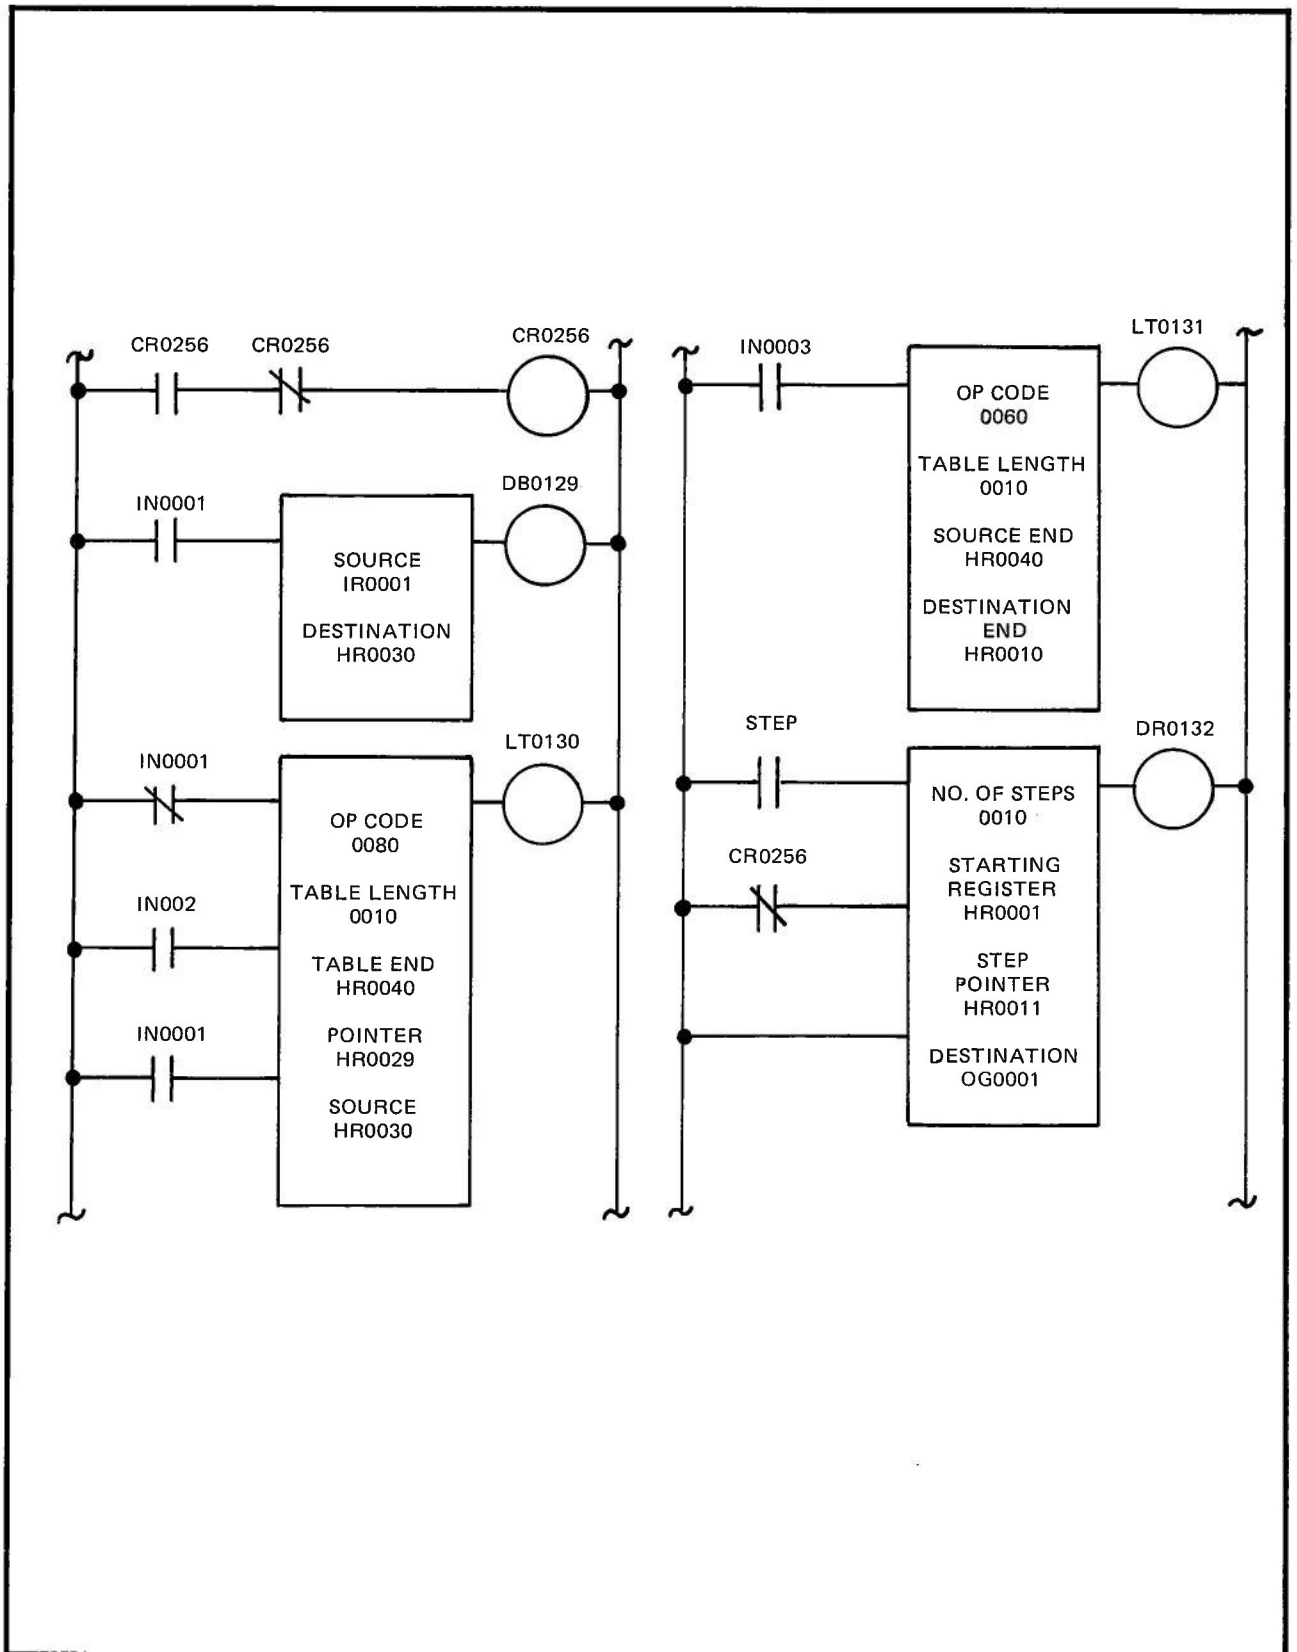

Figure 3. Drum Controller Table Loading Circuit
The RT function is ideally suited for loading step data into the Drum Controller (DR) function. In the circuit in Figure 3, IN0001 is a momentary pushbutton, ENTER DATA; IN0002 is LOAD DATA and must be turned on to load information into the table; and IN0003 is a RELOAD DRUM CONTROLLER momentary pushbutton. An operator can enter new data into the Drum Controller table by entering the desired data in a thumbwheel set. This data is converted to binary information when the ENTER DATA pushbutton is pressed. The binary data is placed in HR0030, which is also the SOURCE register for the Table to Register Move, LT0130. If IN0002 is closed, pressing IN0001 will cause the data currently in HR0030 to be placed in HR0031, the first location in the table being loaded. When IN0001 is released, the POINTER will increment by 1. New data is loaded into the thumbwheel set and the procedure repeated, this time loading the data into HR0032. When the table is fully loaded, the operator presses IN0003, causing the full table of data to be placed in the Drum Controller table, HR0001 through HR0010, by the Block Transfer LT0133.
When the fill loop is activated, the loop first updates the input group/output group to ensure that priority actions take place concerning IN0002, UC0002. Then, the loop updates the input from the scale IR0001. The actual weight is compared to the desired weight (GE0019); when it is correct, the fill process stops. (See Figure 3.)
In Figure 3, the RW function is used to develop a timer within a loop.
Timers may be effectively used if they are not timing concurrently with the loop. For example, in Figure 3, if heat sealable bags were used, additional timing for the sealing process would have been used following the fill loop.